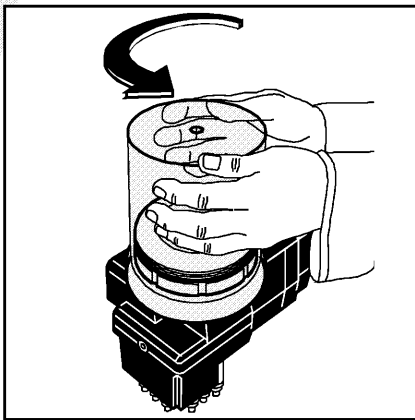

Fig. B7
1. The transparent protective cover (fig. B7) has a bayonet catch. To remove it: turn it counter-clockwise and lift it straight up.